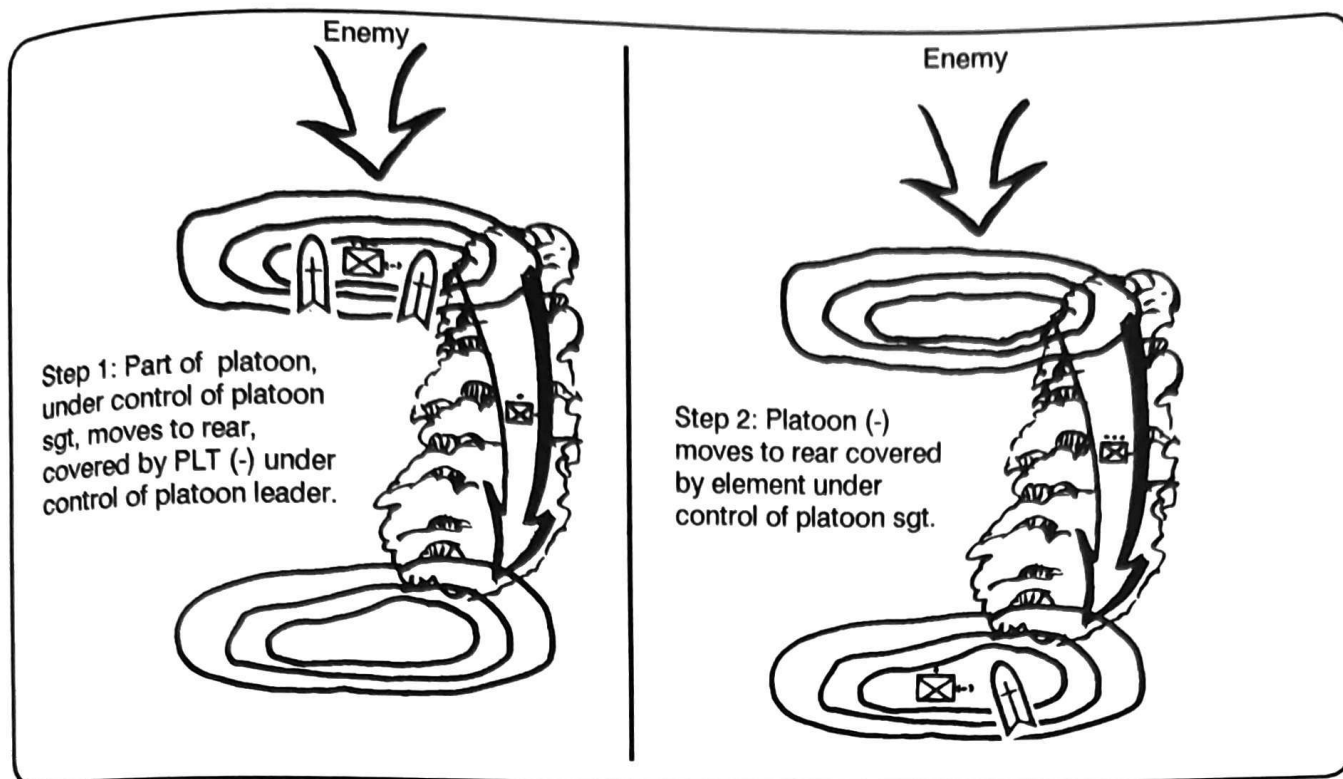

Figure 3-33. Example of withdrawal under enemy pressure.
(1) *Conduct of withdrawal under enemy pressure.* This is the most difficult and least desired method (Figure 3-33). In this type of withdrawal, the platoon, employing fire and maneuver, literally fights its way back from the enemy. The use of Dragons to support this type of maneuver is slightly different from employment in offensive maneuver. There is a need to have Dragons with both